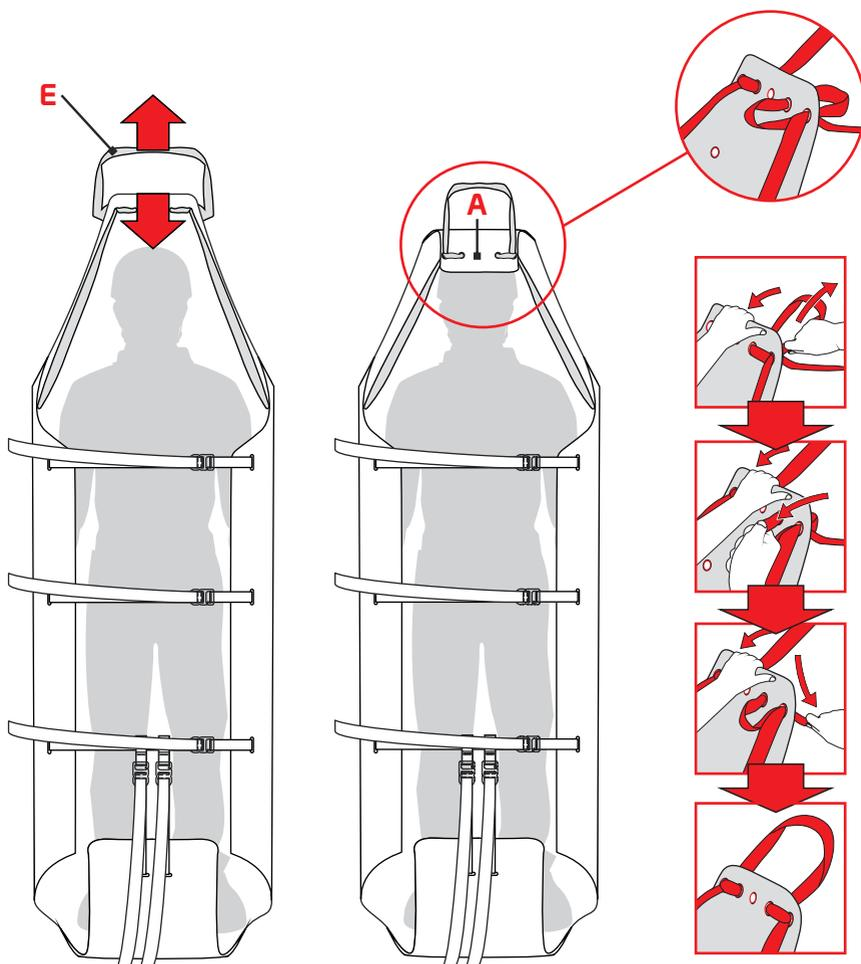

Fig.15
c) Tension the sling (E) to lift the end part of the support surface (A) enough to contain the head of the patient and immobilise it (fig. 15).